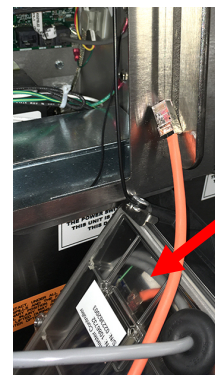

Figure 27
37. Lower the controller and rest it on the bottom of the control box (see Figure 27). The black tether on the right will support the controller.